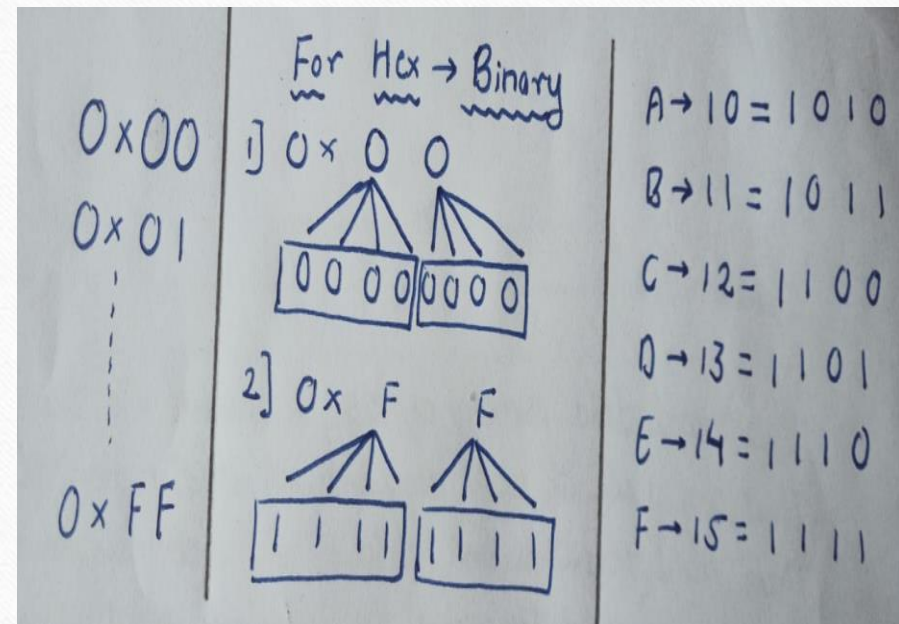

Fig 4.1
- **Hex Declaration**:- For the pins ON, OFF conditions...(Fig 4.1), one Hex Digit is assigned to four bits(i.e 4 pins of the IC).